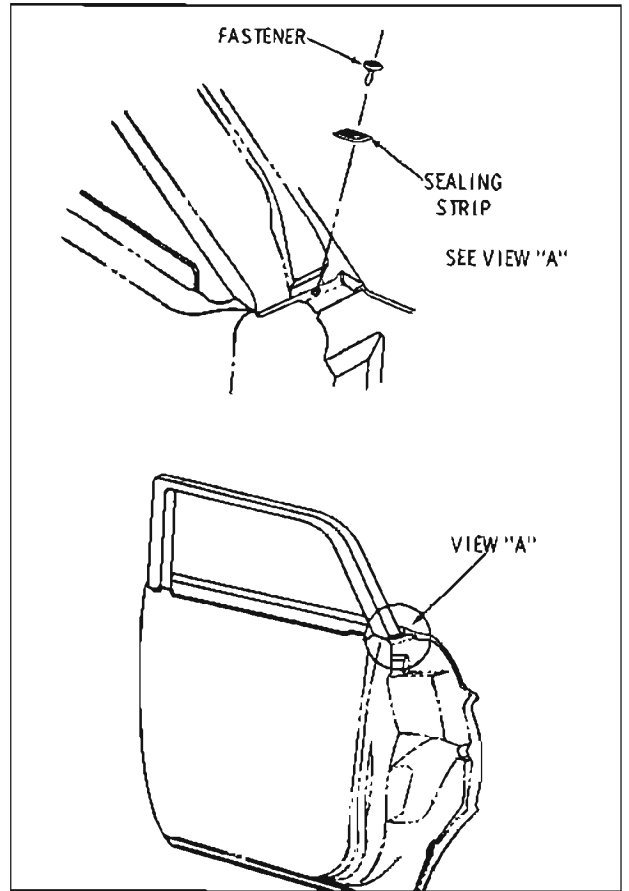

Fig. 16-24 Lock Pillar Sealing Strip (69 Styles)
1. Remove the single snap fastener securing sealing strip to rear door lock pillar (at belt) and remove strip. (Fig. 16-24)